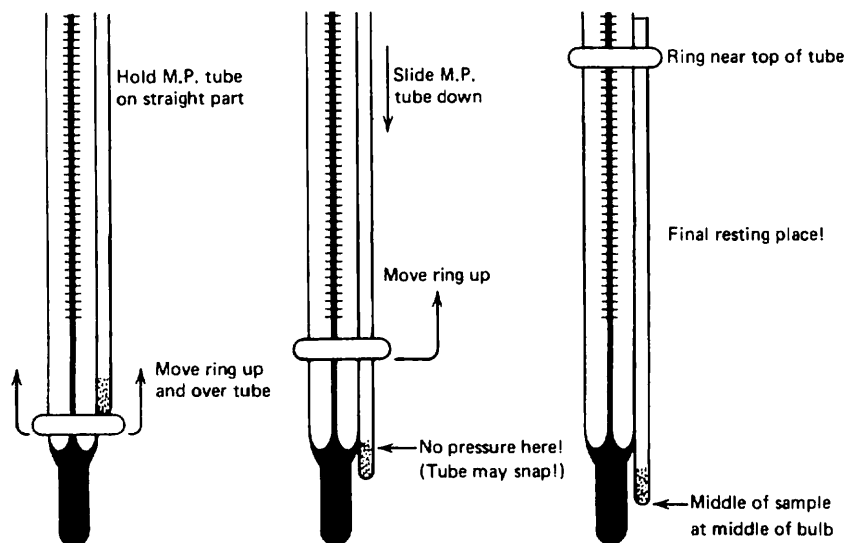

Fig. 55 Attaching M.P. tube to thermometer without a disaster.
2. Put the *bottom* of the loaded MP tube *just above* the place where the thermometer constricts (Fig. 55), and carefully roll the rubber ring onto the MP tube.